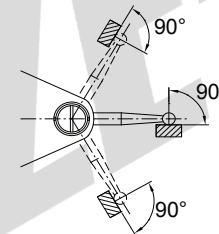
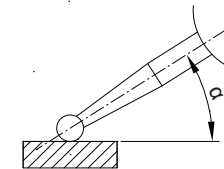

fig.6
fig.7
3. During measurement, styli should be vertical to measuring direction(fig.6). When the styli is at an angle with the measuring direction(fig.7), the following correction should be made.